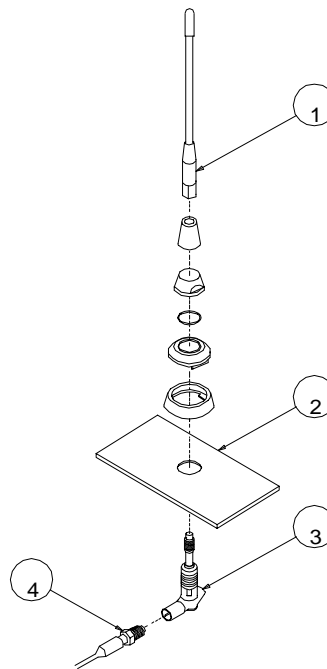

Figure 2.14: Standard External Antenna
3. Assemble the antenna according to Figure 2.14: Standard External Antenna.